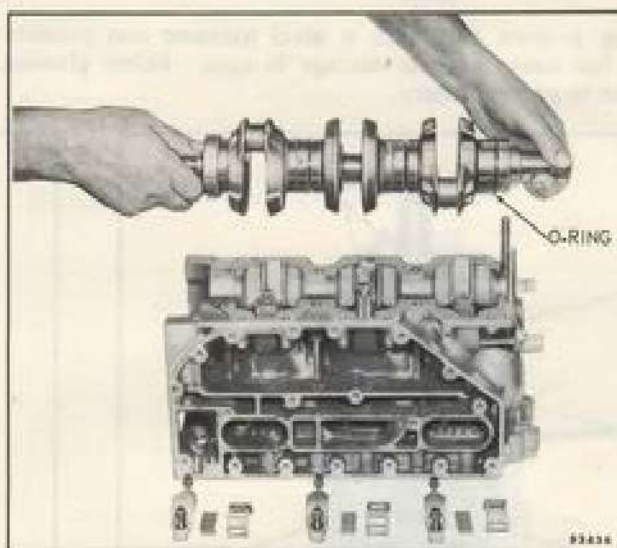

Figure 5-19. Removing or Installing Crankshaft
e. Lift crankshaft from cylinder block. See Figure 5-19. Reinstall matched caps on connecting rods and remove pistons and rods from cylinders.
- d. Place crankshaft in position on cylinder block, aligning top and two center main bearings with dowel pins in cylinder block. See Figures 5-19 and 5-38.